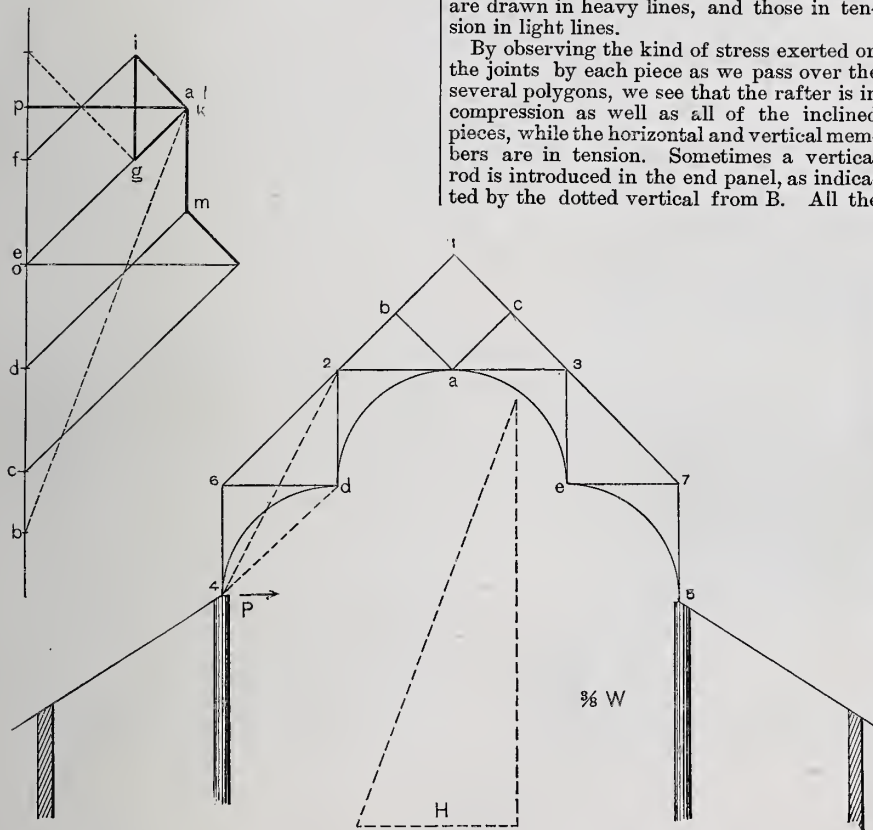

Fig. 21.—Stress Diagram for Hammer Beam Truss of the Form 4, 6, 1, 7, 5.
there are no side roofs, the main walls must be properly strengthened by buttresses. It will first be well to remember that a curved piece in a truss, so far as the transmission of force from joint to joint is concerned, acts as if it lay in the straight line between two joints. The curved members in the diagram Fig. 21, are quadrants of a circle, but they may have any other curve, depending somewhat upon the pitch of the roof. If we now consider the point of support (4) of the truss and remember that the curved piece (4-*d*) transmits the force between its two extremities as if it were straight, it will be evident that the thrust of the inclined piece must have a horizontal component which cannot be neutralized by a vertical supporting force alone. Therefore, in addition to the reaction of half the weight of the roof and truss, there must be supplied by the wall, assisted say by a buttress or a side-roof, a certain horizontal thrust.
The next form of truss which we shall consider is one where the walls have not merely to support the truss and its load, but are also subject to a horizontal thrust, in consequence of the peculiar framing of the truss. Fig. 21 represents a frame which is commonly called a hammer-beam truss. It is a very handsome type of roof trussing and finds most frequent application in church architecture. When the church has a clear story, the windows come between the trusses, the truss is supported on columns, and the roof of the side aisle takes up the horizontal thrust. If